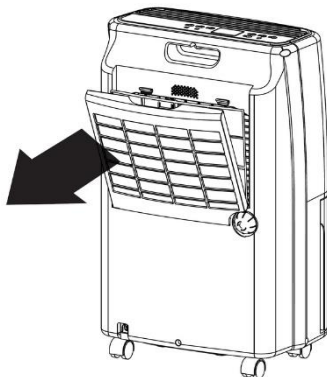

Fig. 1
- Grasp the air filter at the top edge and pull it towards you to remove the air filter from its holder. (See Fig. 1)